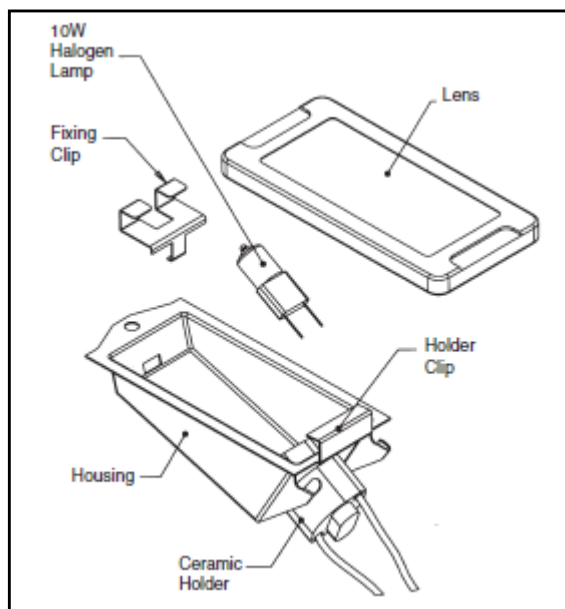

Figure 33: Oven Lamp Assembly
3. Slide the tip of a flat blade screw driver between the fixing clip and the lamp housing (Figure 33 and 34.)